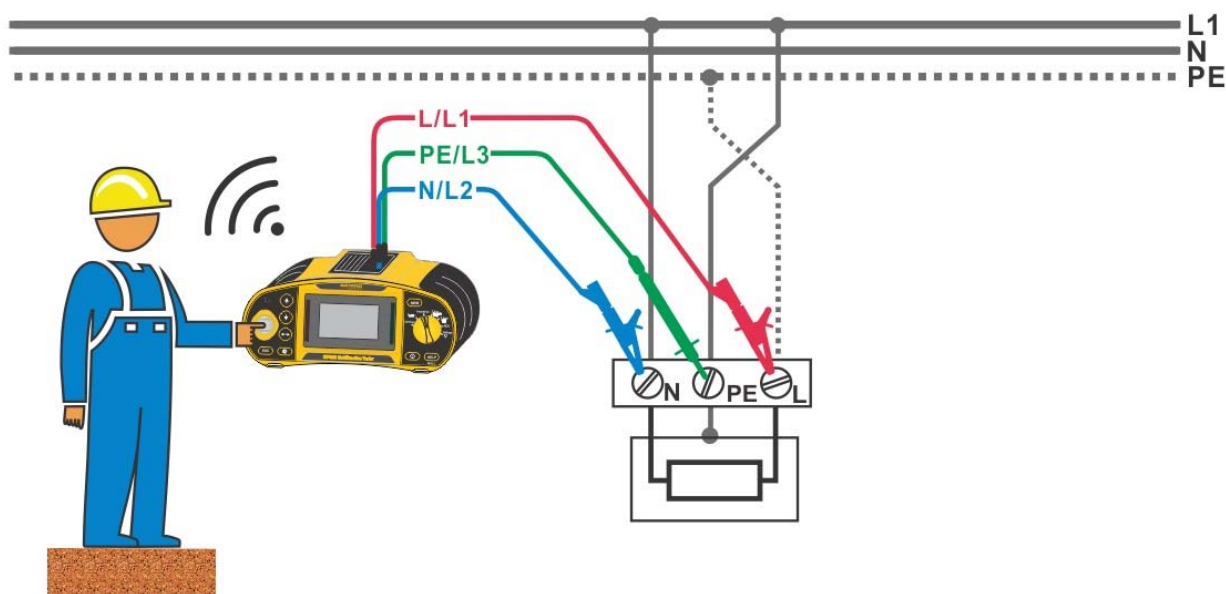

Figure 5.38: PE and Neutral at phase potential and Live earthed
- ❑ **Connect** the test leads to the installation under test (see *Figure 5.38*)